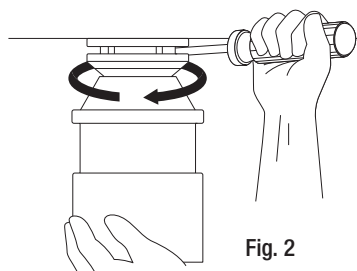

Fig. 2
- Remove the disposer from the sink flange by turning the mounting ring clockwise. If you are unable to turn the mounting ring, tap on one of the extensions from the ring with a hammer. Some mounting systems have tubular extensions, inserting a screwdriver into one tube will provide additional leverage for turning the mounting ring (see Fig. 2).